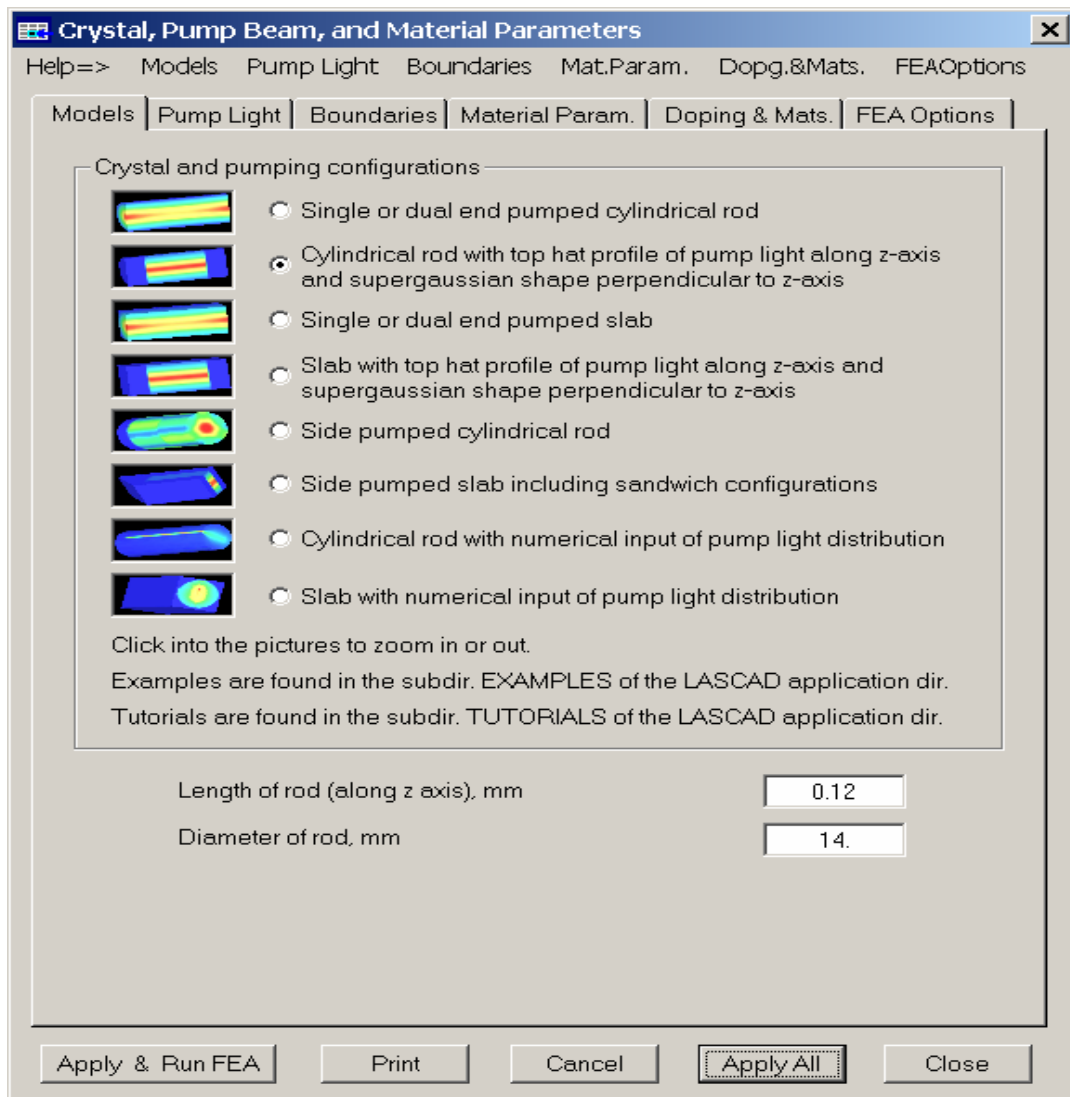

Fig. 1
- The tab "Models" is showing pre-designed models provided with LASCAD as shown in Fig. 1. The model "Cylindrical rod with top hat... " is selected. That means that the absorbed pump power density is approximated by a top hat (= constant) distribution in the direction of the disc axis. Below the frame with the models you can see the dimensions of the disc.